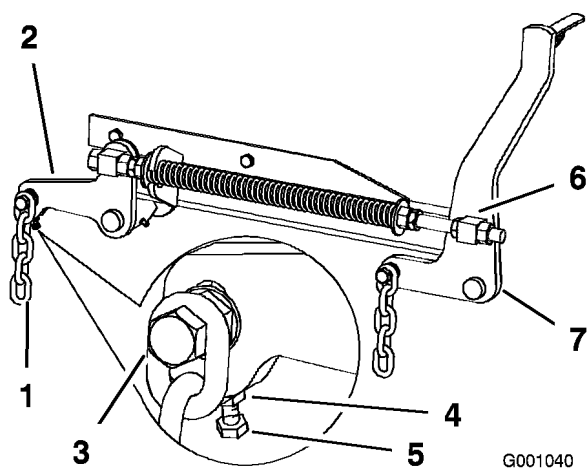

Figure 68
- If the measurements at positions **B** or **C** are not correct, loosen the bolt attaching the rear chain to the rear support arm (Figure 68).
- Loosen the jam nut under the rear support arm and adjust the adjustment bolt to get a measurement of 3-1/8 to 3-1/4 inches (Figure 68).
- Loosen the front swivel jam nuts, at the front of the right and left swivels, approximately a 1/2 inch (13 mm) (Figure 68).
- Adjust the lift nuts on both the left and the right side of the machine to achieve 1/4 to 3/8 inch (6 to 10 mm) lower in front at **A** than in the rear at **B** (Figure 68).